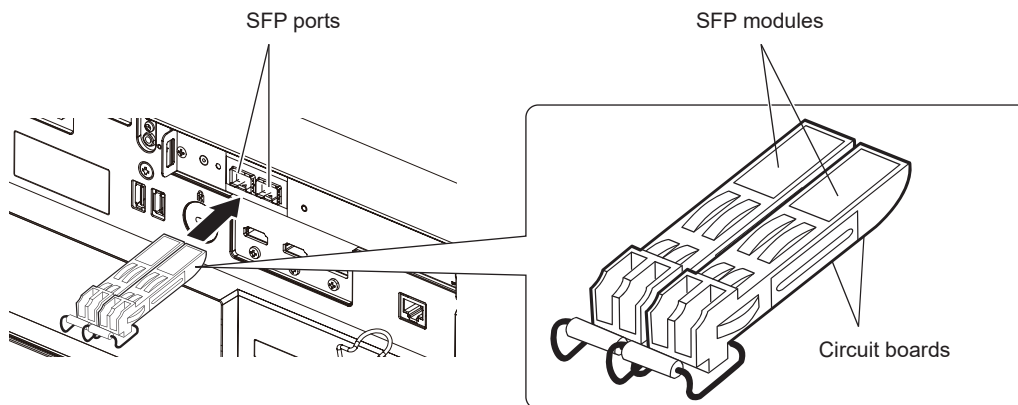

Fig. 1
- 2) **Install the SFP module to the SFP port. (Fig. 1)**